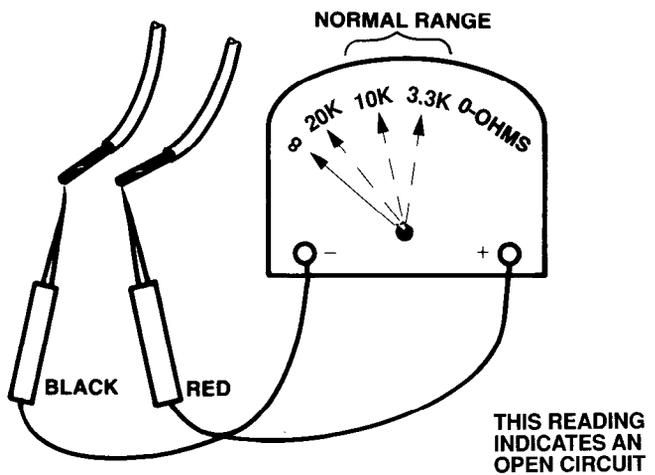
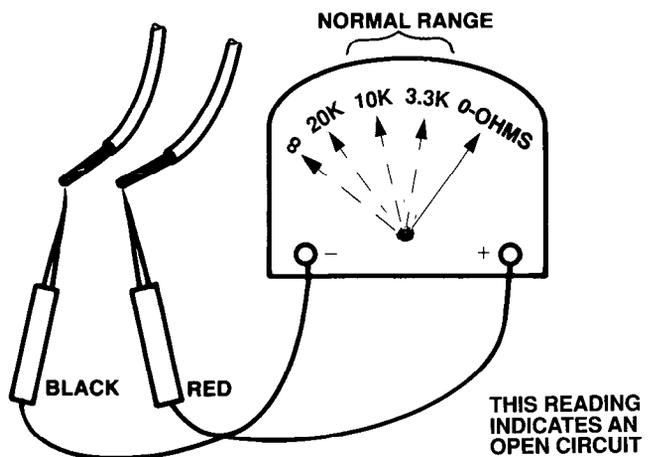

FIGURE 8
FIGURE 9
If reading indicates no continuity (open circuit, see Fig. 8) or a short circuit (see Fig. 9), locate and correct open/short in circuit.
C. Set volt-ohmmeter to OHMS X 10 and place meter probes across circuit being tested Reading should indicate an open circuit (Fig. 8).
If reading indicates a short circuit (Fig. 9) or something less than infinity (∞), check circuit wiring.